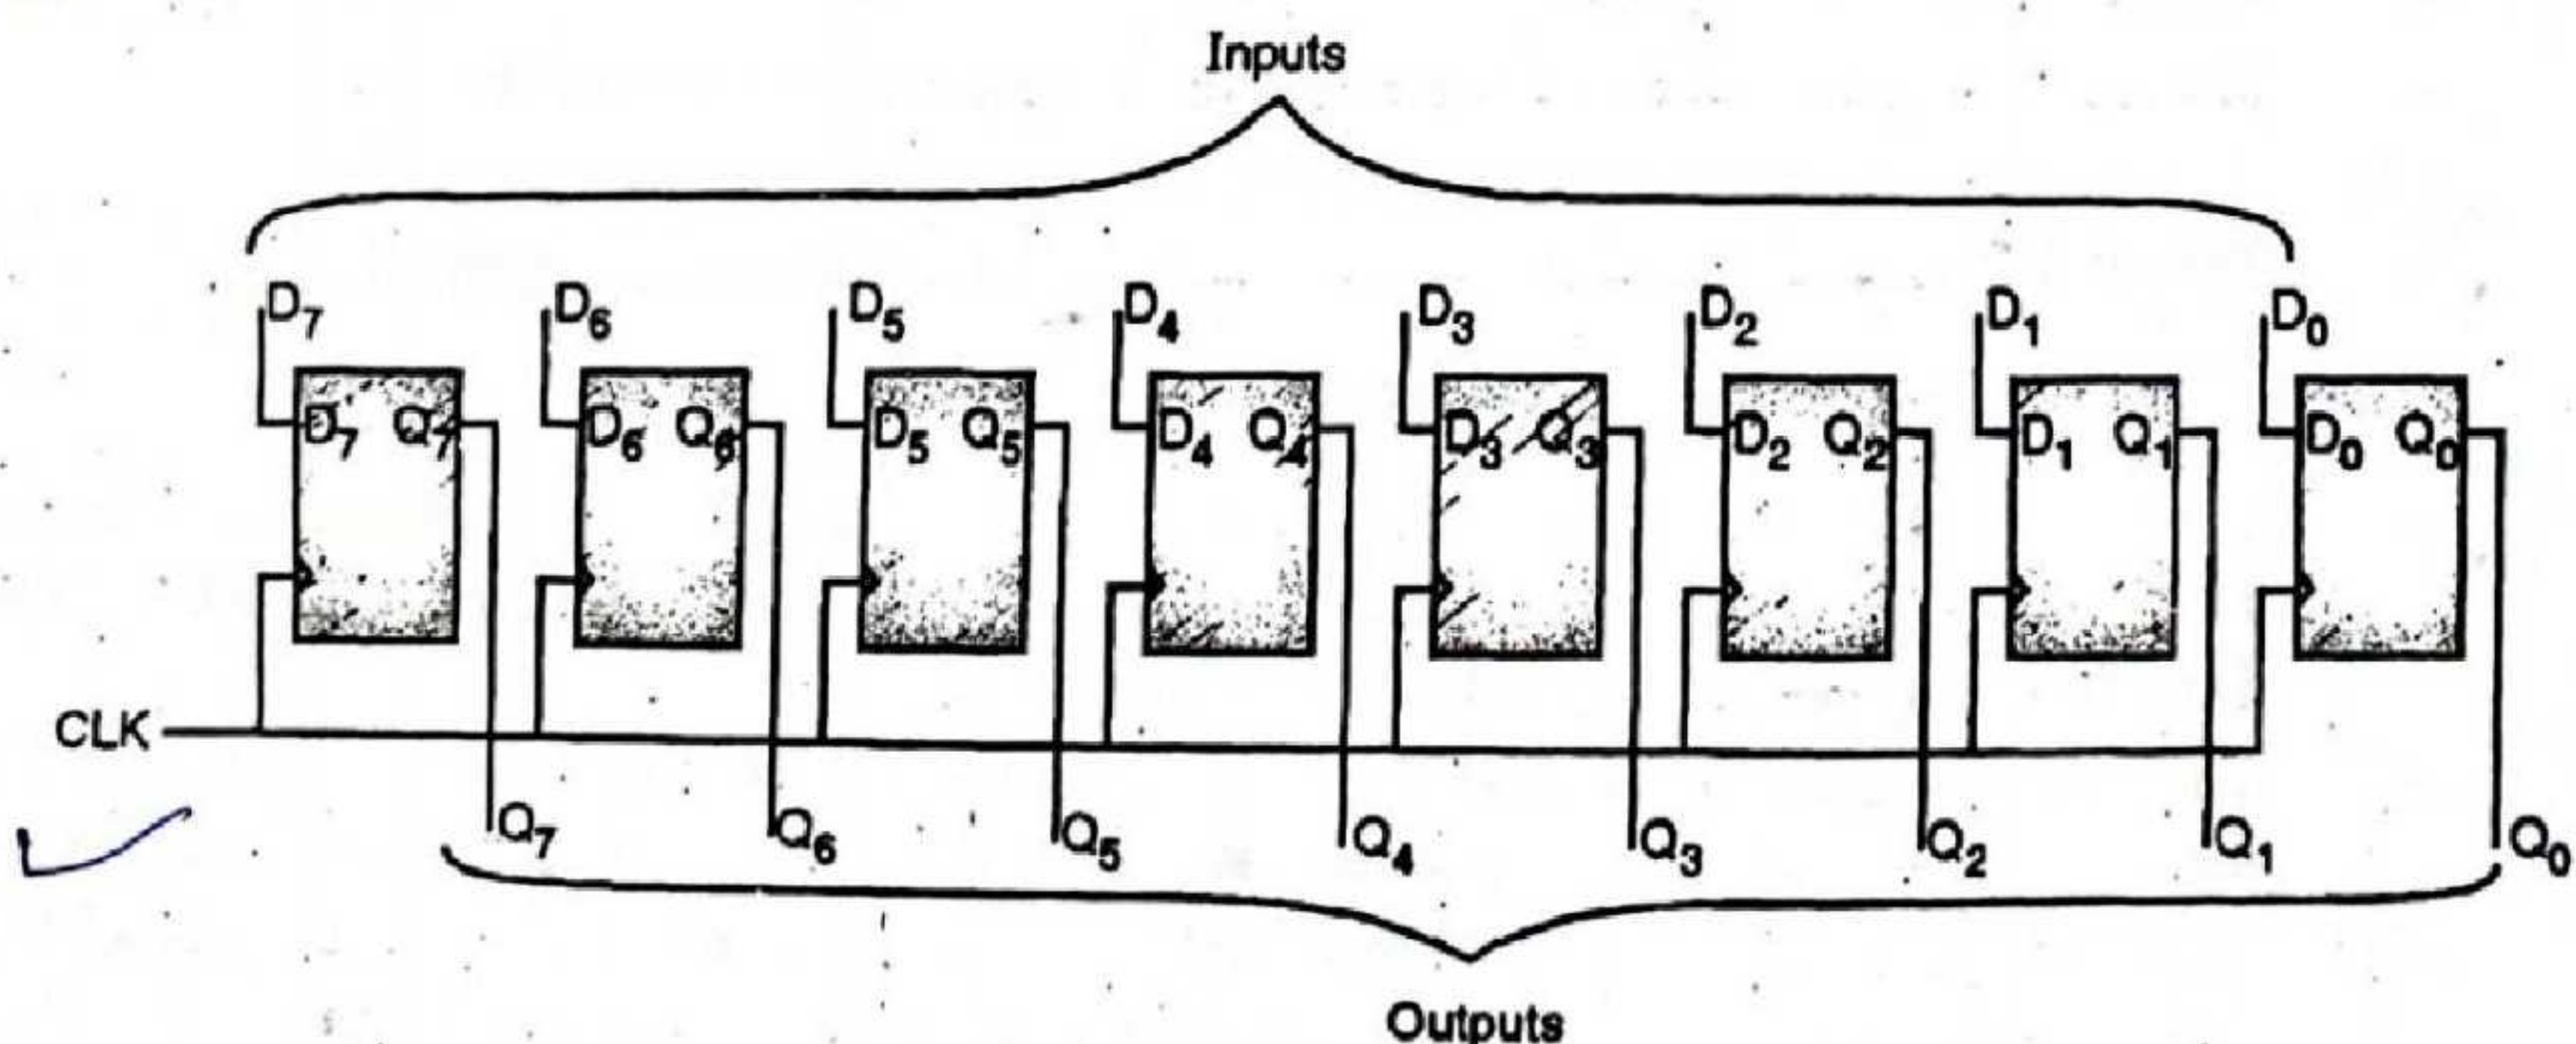

Fig. 1.6.2 : 8 bit register
- It consists of PIPO (Parallel in parallel out) register as shown in Fig. 1.6.2.